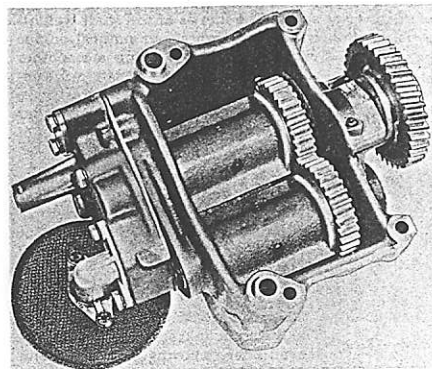

Fig. 87—Assembled view of removed engine balancer and oil pump unit. Refer to Fig. 88 for exploded view.
(S) retaining balance weights to shafts. Also make sure flat surfaces of weights are aligned when installed, as shown in Fig. 87.